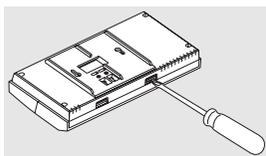
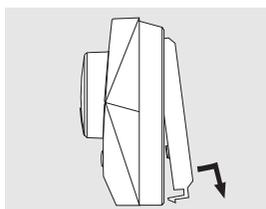

figure 5-1
figure 5-2
3. Remove the mounting plate from the thermostat. At the bottom side of the thermostat are 2 right-angled slots. Here, the click-on latches are located. Press the click-on latches out of the slots using a flat screwdriver (refer to figure 5-1). Remove the mounting plate from the thermostat (refer to figure 5-2).